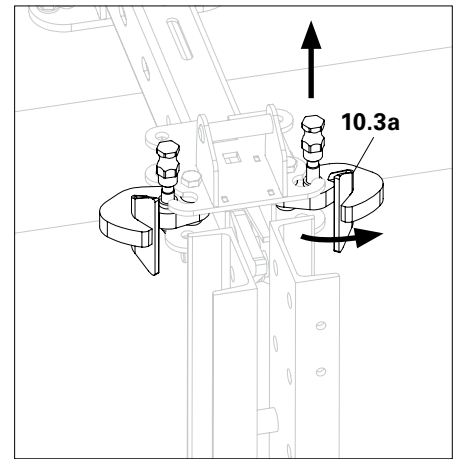

Fig. D2.02b
3. Proceed in the same way with the other guiding skid. (Fig. D2.02b)